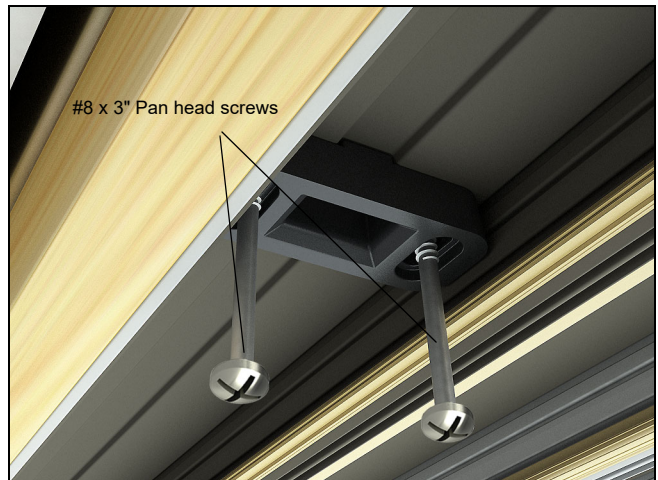

Figure 97
8. Fasten the flush bolt strike through the pre-drilled holes using the #8 x 3" black installation screws, near the center of the head jamb on the interior track. Ensure there are adequate shims between the rough opening and the head jamb where the strike is located. See figure 97.